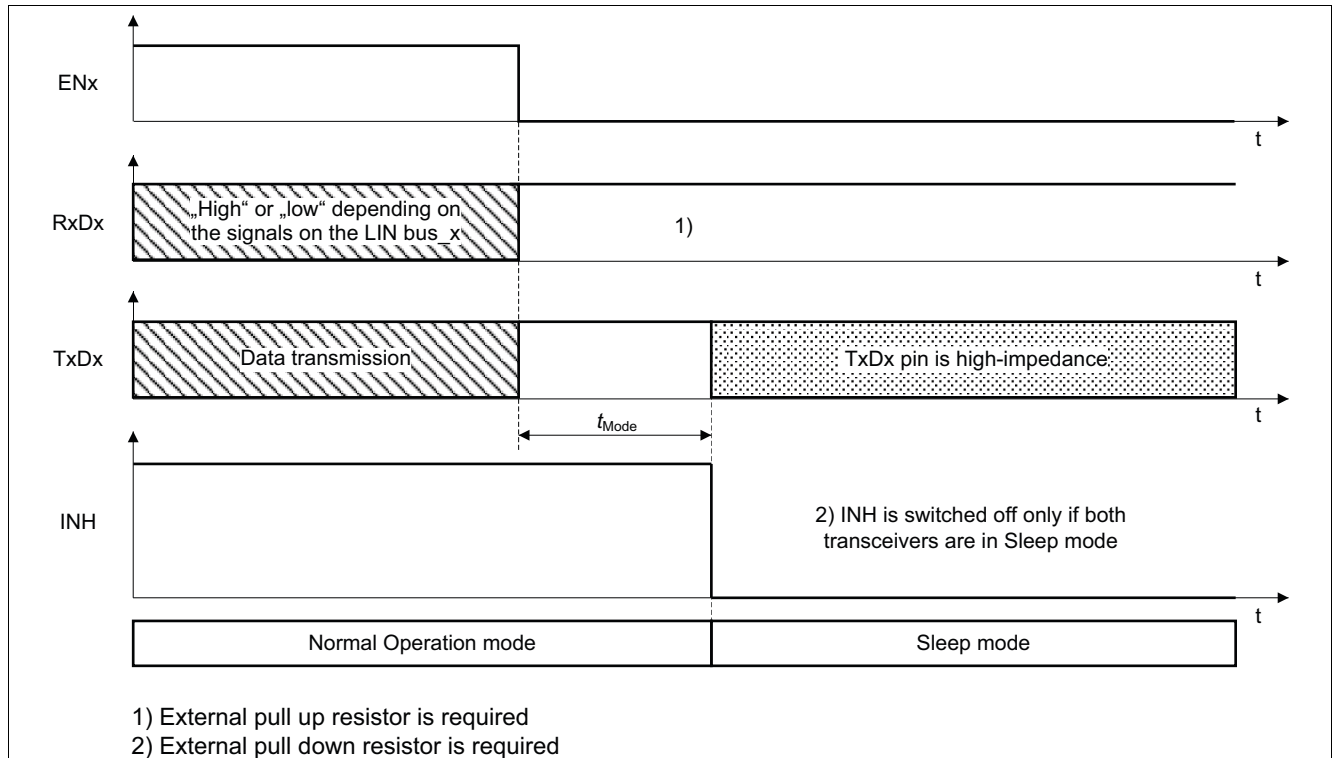

Figure 6 Transition from Normal Operation mode to Sleep mode
- The Sleep mode will be entered, if the transceiver_x is in Normal Operation mode AND the ENx pin has been set to “low” (see Figure 6).
Figure 6 shows the behavior of the RxDx, TxDx and INH pin when the transceivers enter Sleep mode from Normal Operation mode.